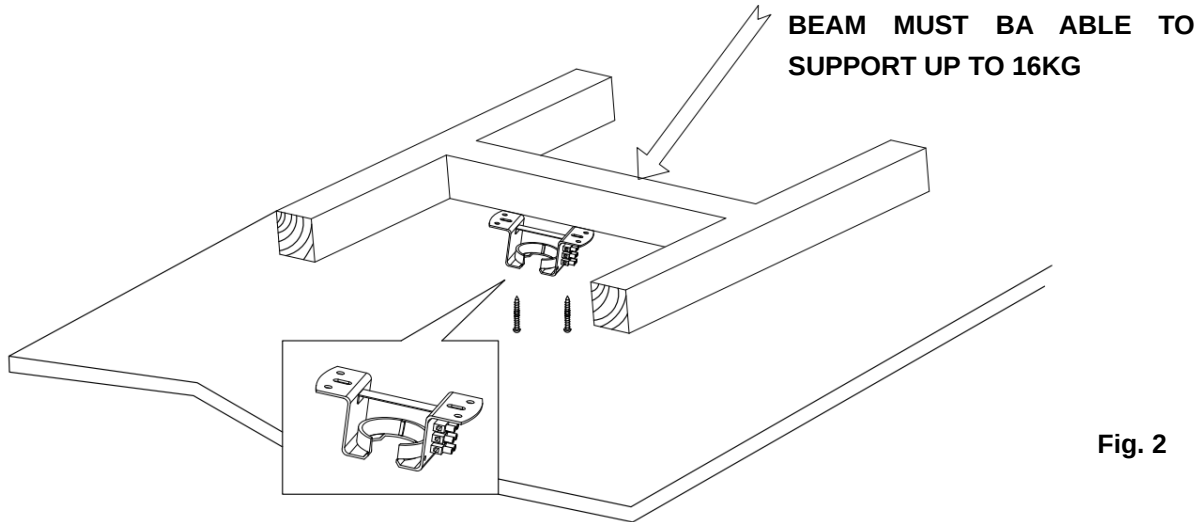

Fig. 2
- Install the hanging bracket to the ceiling joist or structure that is capable of carrying a load of at least 16kg, with two long screws provided. Ensure at least 30mm of the screw is threaded into the support. (Fig.2)